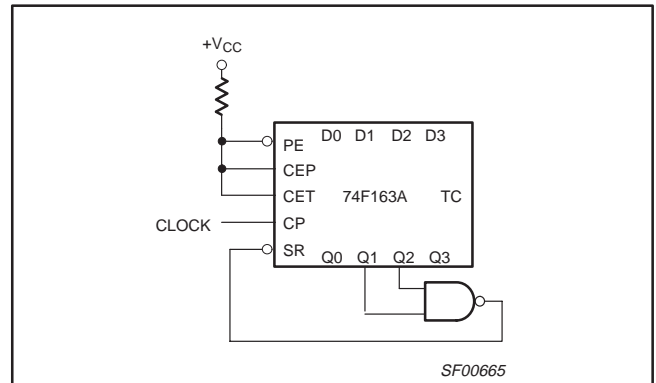
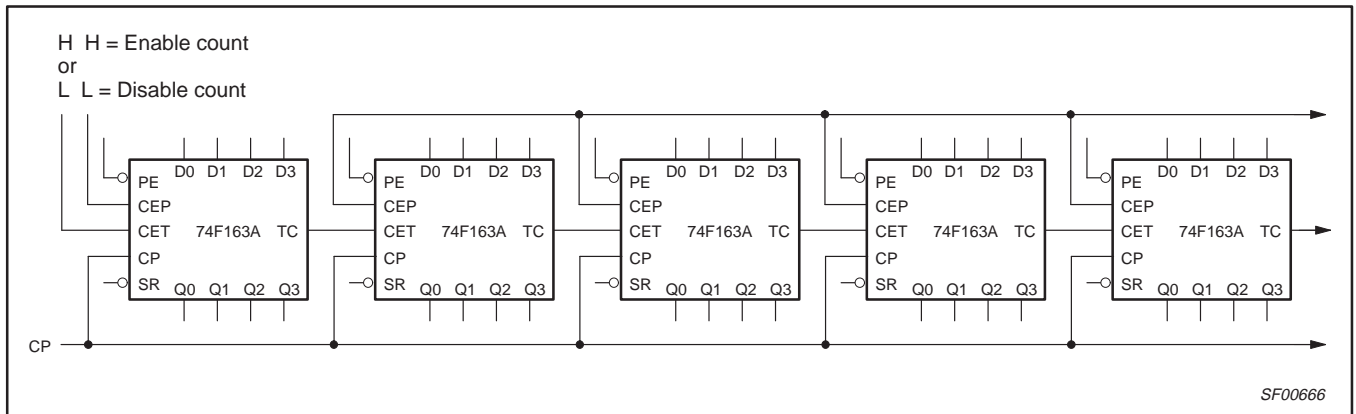

Figure 1. Maximum count modifying scheme
Figure 2. Synchronous multistage counting scheme
A Low level at the Master Reset ( $\overline{\text{MR}}$ ) input sets all the four outputs of the flip-flops (Q0 – Q3) in 74F161A to Low levels, regardless of the levels at CP,  $\overline{\text{PE}}$ , CET and CEP inputs (thus providing an asynchronous clear function). For the 74F163A, the clear function is synchronous. A Low level at the Synchronous Reset ( $\overline{\text{SR}}$ ) input sets all four outputs of the flip-flops (Q0 – Q3) to Low levels after the next positive-going transition on the clock (CP) input (provided that the setup and hold time requirements for  $\overline{\text{SR}}$  are met). This action occurs regardless of the levels at  $\overline{\text{PE}}$ , CET, and CEP inputs. The synchronous reset feature enables the designer to modify the maximum count with only one external NAND gate (see Figure 1). The carry look-ahead simplifies serial cascading of the counters. Both Count Enable (CEP and CET) inputs must be High to count. The CET input is fed forward to enable the TC output. The TC output thus enabled will produce a High output pulse of a duration approximately equal to the High level output of Q0. This pulse can be used to enable the next cascaded stage (see Figure 2). The TC output is subjected to decoding spikes due to internal race conditions. Therefore, it is not recommended for use as clock or asynchronous reset for flip-flops, registers, or counters.